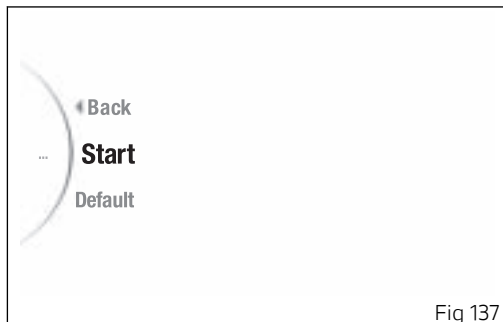

Fig 137
By pressing the ENTER button (3) with the "Default" item (Fig 137) selected, the instrument panel displays the message "Wait..." for 2 seconds, followed by the message "Default restored" for 2 seconds and then returns to the previous menu.